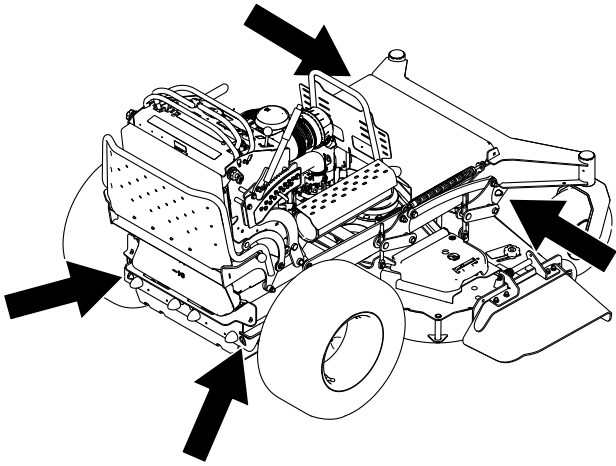

Figure 31
7. Tie down the machine near the front caster wheels, or front frame holes, and the rear bumper holes with straps, chains, cable, or ropes (Figure 31). Refer to local regulations for tie-down requirements.